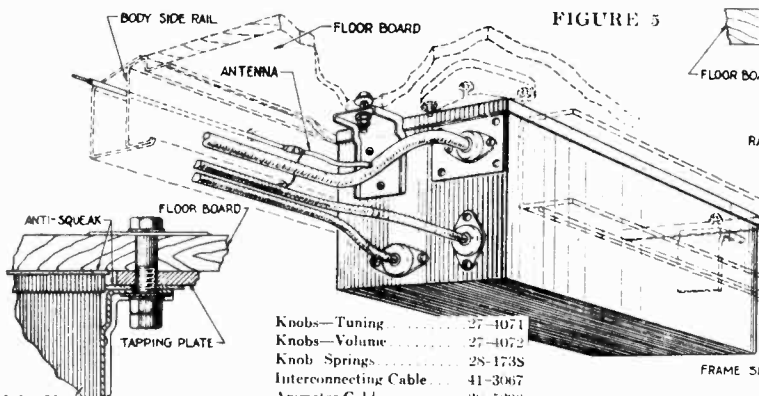

FIGURE 5
5. Figure 5 shows the method of mounting the radio receiver under the right-hand front seat stool mounting bolt with the 1-3/4" x 5/16" bolt provided in the radio package. The front bracket is secured to the floorboard using the bolt removed from where the rear bracket is mounted.
7. The antenna lead wire from the roof will be found in the under body side rail and should be connected to the antenna lead branch of the speaker cable, as shown in Figure 5. Make a twisted splice, using plenty of tape to insure a water tight joint, grounding the eye terminal on the end of the antenna lead pigtail to the body side rail.